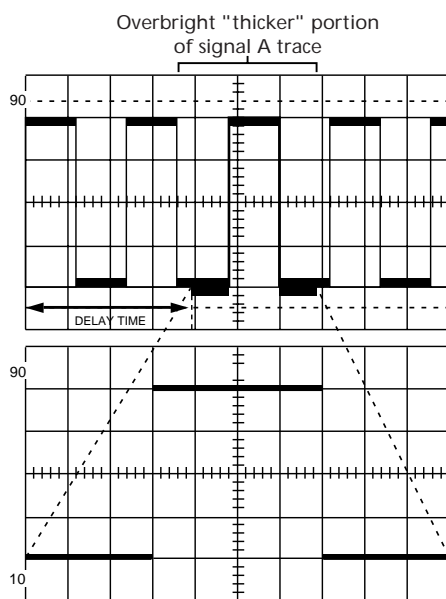

Fig. 9c Display of time base B
5. Adjust the DELAY'D knob (23) in order to place/position the "trace unblanking" over the selected portion of the signal.
6. Then press button B in the HORIZONTAL DISPLAY panel (20). The selected portion of the signal is then displayed over the entire width of the screen. See also Figure 9c.
7. The displayed signal form can be expanded more by a factor of 10 by pulling out the VARIABLE knob (24).